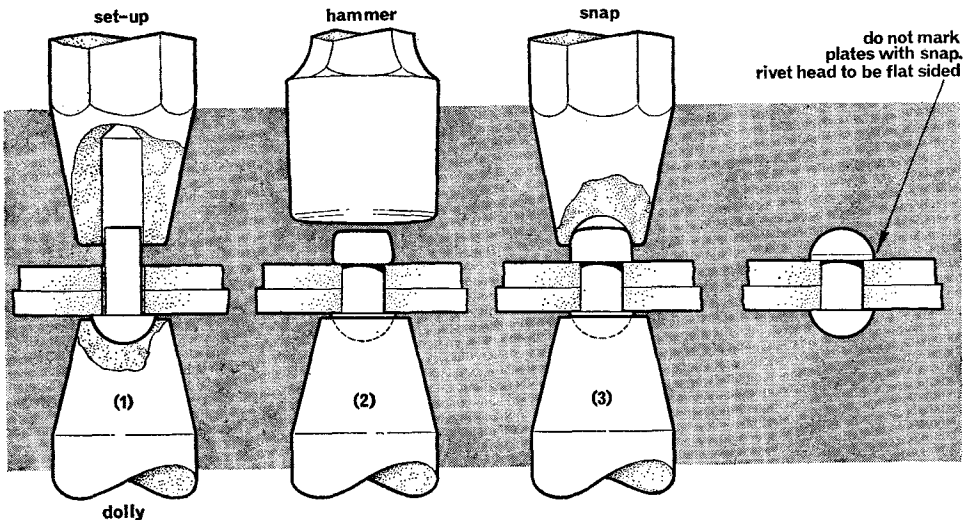

Fig. 9 Snaphead riveting
20. **Snaphead riveting.** The three tools needed for snaphead riveting are a 'dolly' to support the preformed head, a 'set-up' to close the plates and a 'snap' which shapes the second head (Fig. 9).
- d. Support the preformed head in the dolly, place the set-up over the rivet shank and strike the set-up lightly. This brings the plates close together and the preformed head hard against the plates (1).
- e. Remove the set-up and strike the rivet shank several times to spread the rivet in the hole (2).
- f. Place the snap over the end of the rivet, hold it square to the plates and form the second head by striking the snap with a hammer (3).